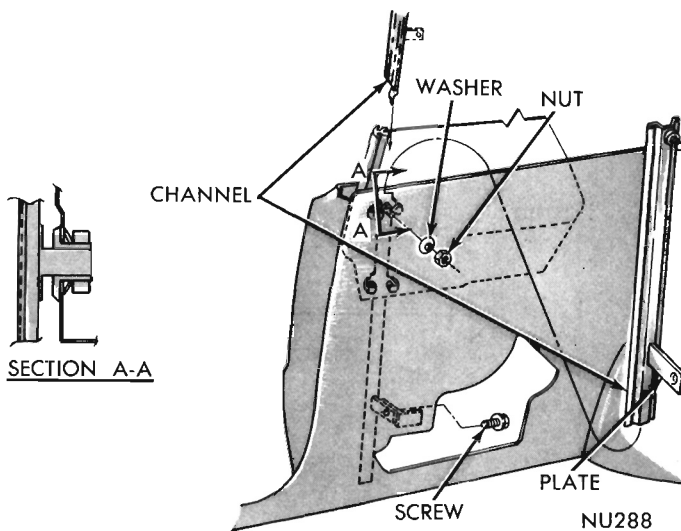

Fig. 39 - Front Track Assembly
- (1) Remove nut and washer from sleeve nut at upper end of track (Fig. 39).
- (2) Remove track lower plate to support screw.
- (3) Push track inward and move track and roller assemblies rearward to disengage rollers from glass lower frame.
- (4) Remove track and rollers out of panel through large access hole.
hole of inner panel (Fig. 39).